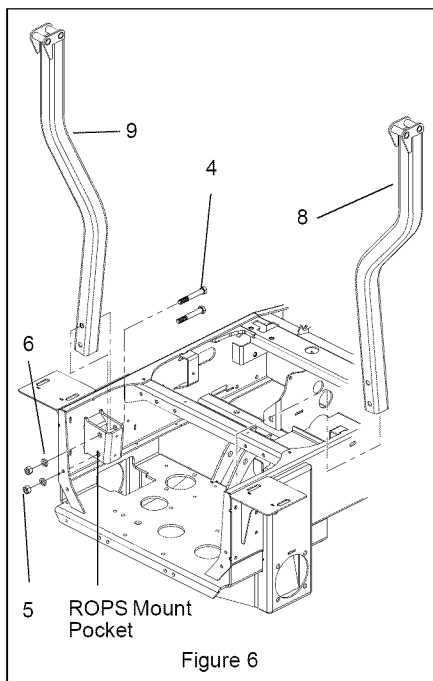

Figure 6
2. Locate the right-side ROPS mount pocket on the inside of the frame above the wheel motor. Mount the right side base weldment (item 8) in the pocket using two 1/2 x 3 1/2 in. hex bolts (item 4), two 1/2 x 3 1/2 in. hex bolts (item 4) and two 1/2 in. spring lock washers (item 6). Do not fully tighten hardware. See Figure 6.